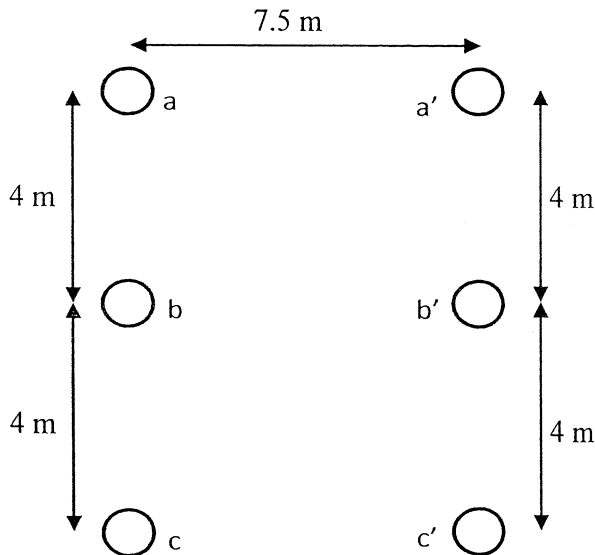
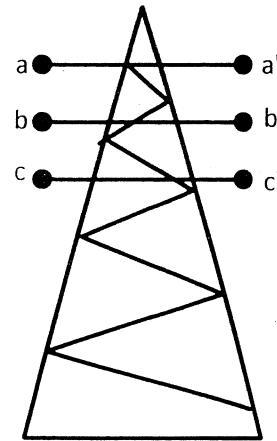

Figure Q3.1
Figure Q3.2
- Q3.** A three phase, double circuit, transposed overhead transmission system is shown in Figure Q3.1. The diameter of each conductor is 12.27 mm. Resistivity and temperature coefficient of the Conductor material at 20°C are $1.78 \times 10^{-8} \Omega\text{m}$ and $0.00382 \text{ }^\circ\text{C}^{-1}$ respectively. The tower configuration of the above double circuit overhead transmission system is shown in Figure Q3.2